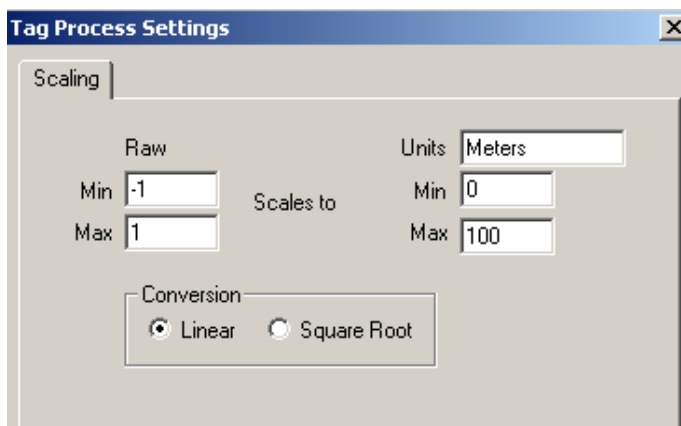

Figure 4.10. Defining the Tag Properties
5. The **Tag Properties** dialog box now appears as shown in **Figure 4.10**. Click **OK** to save this tag.